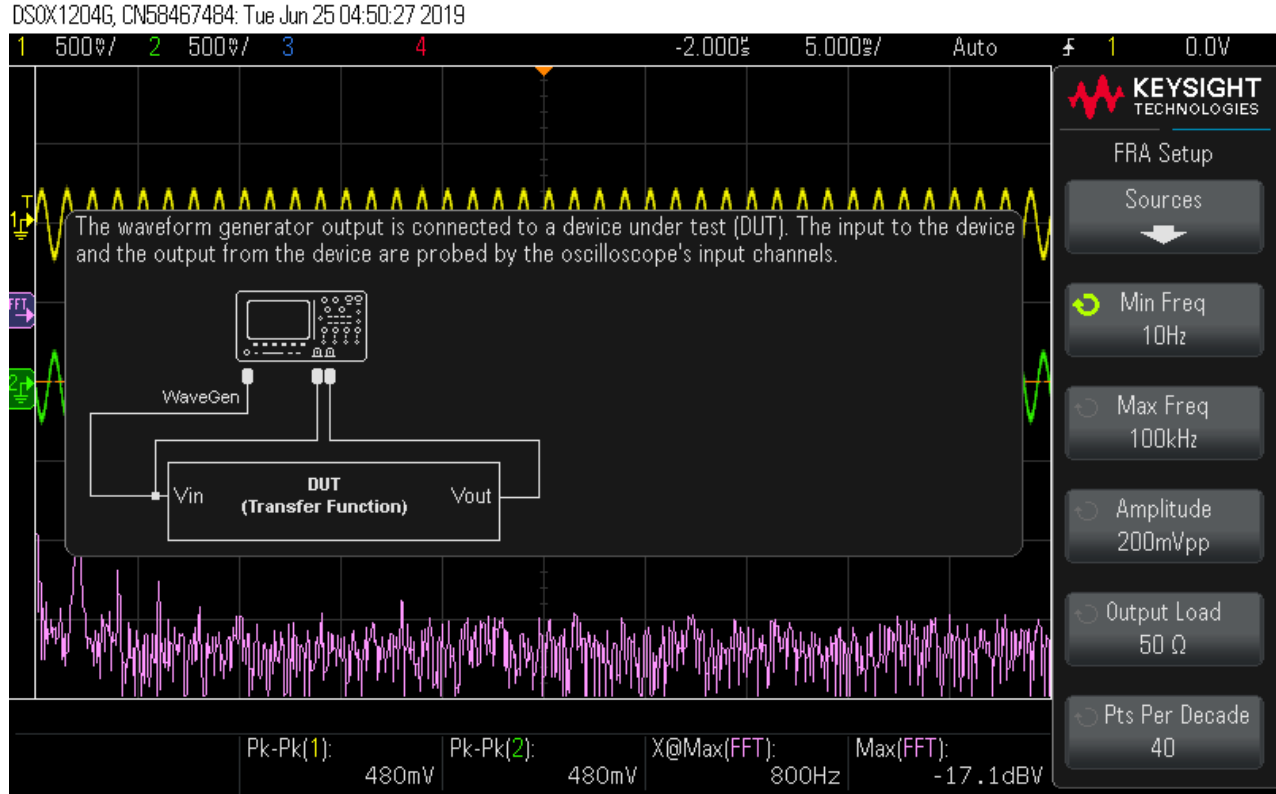

FIG. 4: A screenshot showing the connections needed to perform frequency response analysis.
- (b) *Setup the system shown in Fig. 4:* Push the [Analyze] button and use the SoftKeys to select Features = FRA, Setup.